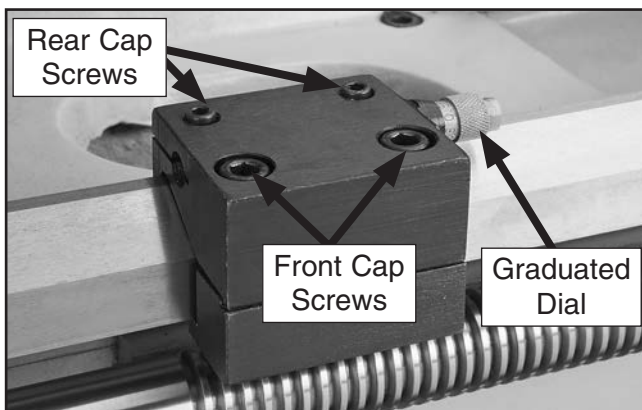

Figure 68. Micrometer stop.
2. Use the carriage handwheel to position the carriage and cutting tool at the desired stopping point, then loosen the front cap screws on the micrometer stop (see **Figure 68**).